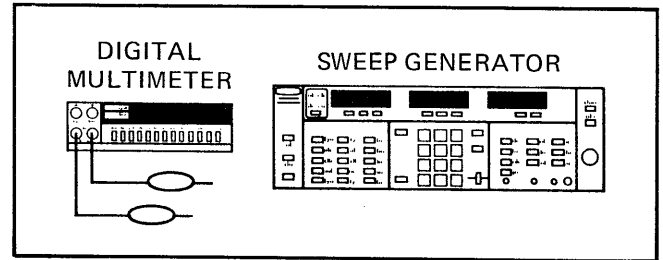

Figure 5-22. Test Equipment Setup for A8 YIG Driver Bias Adjustments
- a. Set up the equipment as shown in Figure 5-22, and turn the equipment on.